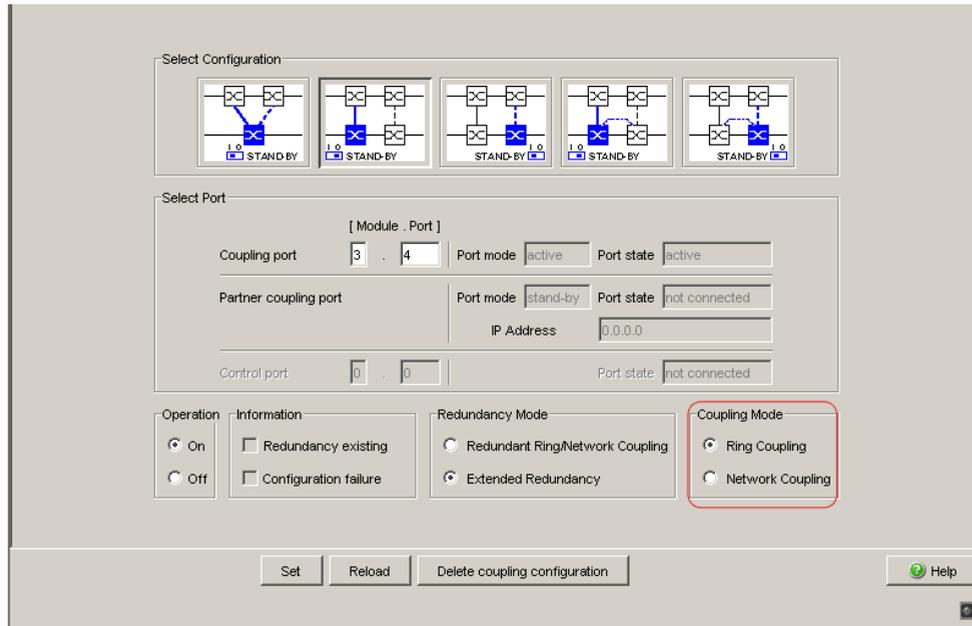

Figure 32: Selecting the coupling mode
- In the “Coupling Mode” frame, select (see fig. 32)